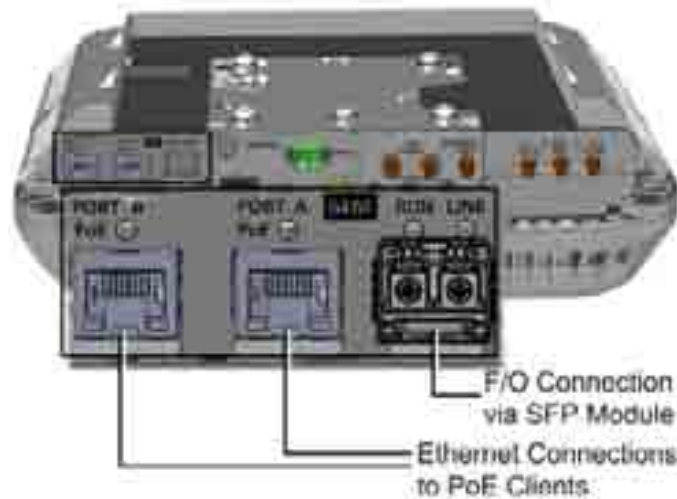

Figure 5-83. GEM Module Interfaces (SFP Module Shown without Adapters)
B. Connect fiber to SFP module ports as follows (see Figure 5-83):